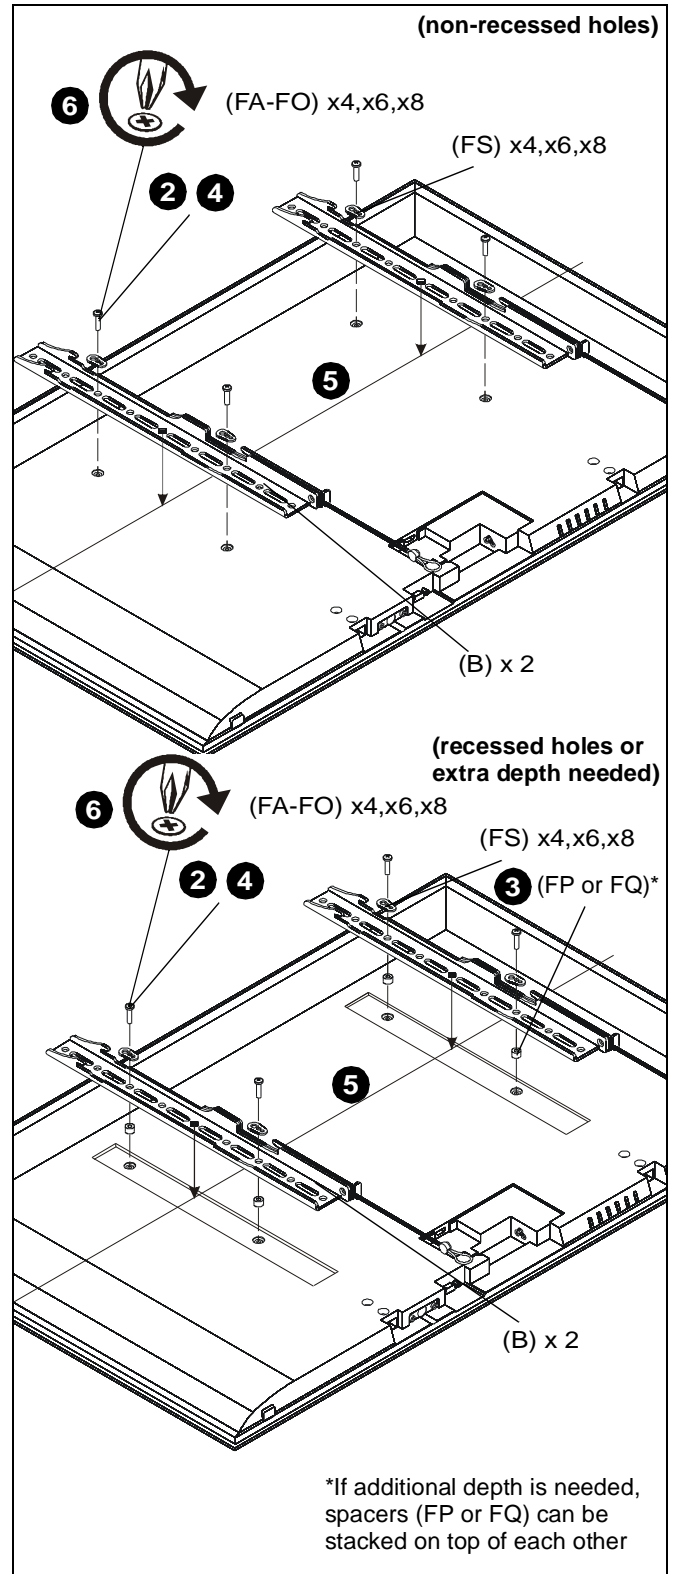

Figure 8
2. Select screw *diameter* by examining hardware (FA-FO) (8mm, 6mm, 5mm, or 4mm) and comparing with mounting holes on display. (See Figure 8)
3. Select spacers: (See Figure 8)
- If mounting holes are not recessed and both brackets (B) can lay flat against display, then no spacers are required.
- If mounting holes are recessed, or if protrusions prevent brackets (B) from laying flat, then spacers (FP or FQ) must be used.
4. Select screw *length*: (See Figure 8)
- Using your hand, insert **SHORTEST** length screw of selected diameter (FA, FE, FI or FL) through bracket (B), universal washer (FS), selected spacer (FP or FQ, if required), into display mounting hole. Do **NOT** thread screw into hole at this time.
5. Place brackets (B) on display, ensuring: (See Figure 8)
- Center of brackets (B) are as close to the center of the back of display as possible after being installed. Center of bracket is indicated by the diamond-shaped hole.
6. Using Phillips screwdriver, carefully install selected screws through universal washers (FS), brackets (B), and spacers (FP or FQ, if required), into display. (See Figure 8)